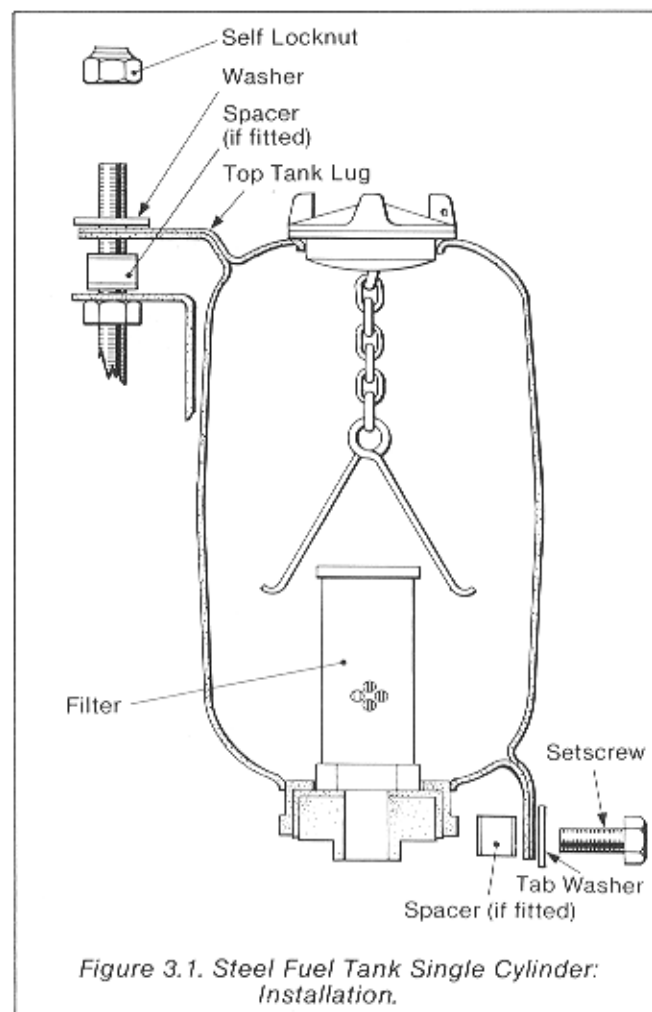

Figure 3.1. Steel Fuel Tank Single Cylinder: Installation.
**Replacement (Figure 3.1)**
- (1) Check that all the correct set screws or studs, nuts washers and spacers (9 pint only) are available.
- (2) Check the fuel tank mounting bosses on the gear cover for damage. Fit the two studs if applicable.
- (3) Loosely fit the two bottom fixing set screws or nuts to the gear cover, complete with a new tab washer and spacers.
- (4) With the tank clear of the mounting studs connect the tank-to-injection pump pipe to the tank. Do not strain or distort the pipe.
- (5) On a 9 pint tanks only fit the top spacer in position as shown in Figure 3.1.
- (6) Fit the top fuel tank lug over the cylinder
head stud at the same time locating the bottom fuel tank lugs over the two set screws or studs. On 9 pint tanks only ensure that the bottom spacers are behind the fuel tank lugs as shown in Figure 3.1. Check that the tank is squarely in position.